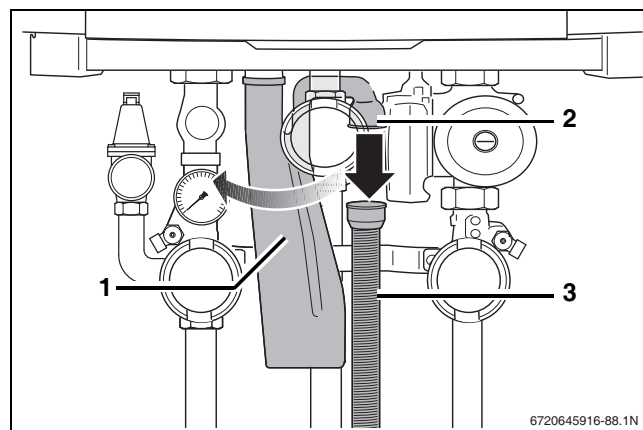

Fig. 91 Disconnecting the condensate trap hose
- ▶ Turn the condensate trap a quarter rotation counterclockwise (→ fig. 91).